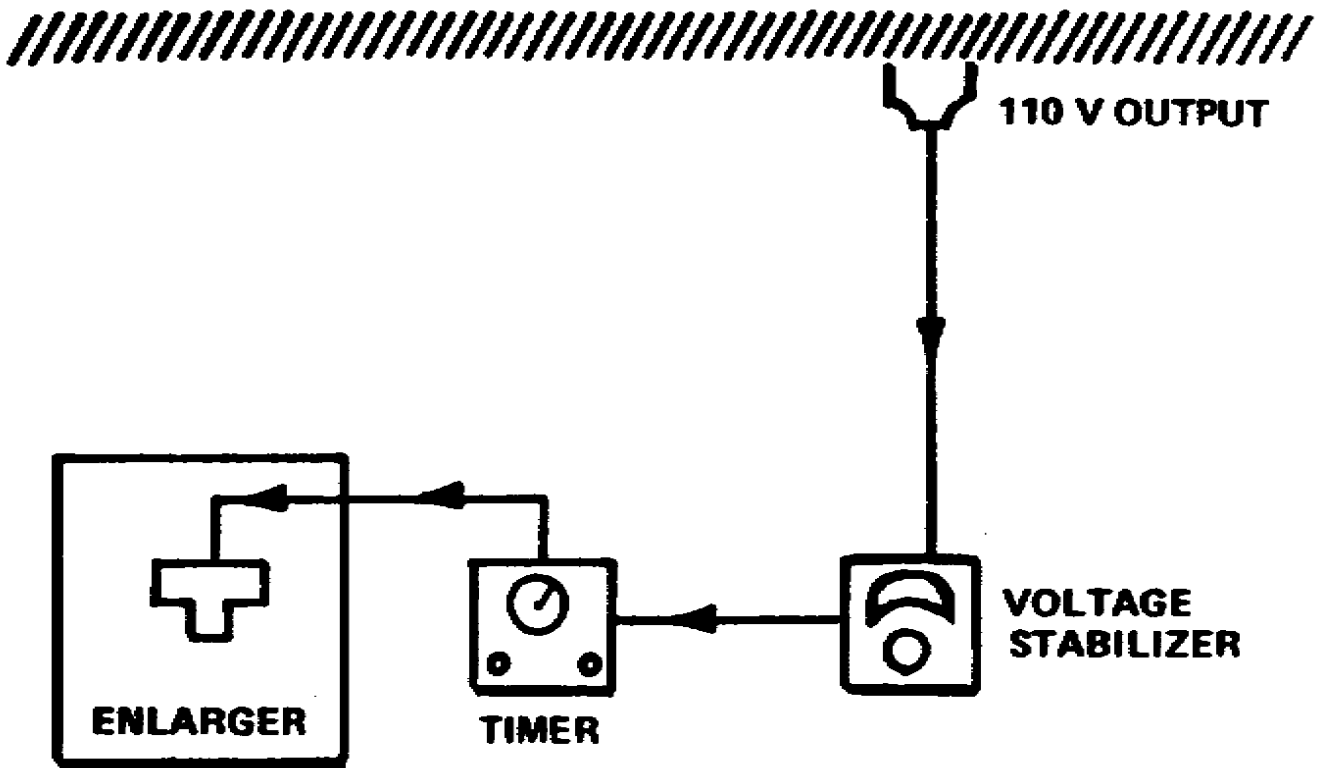

Figure 1-3. Typical enlarger setup
- a. Enlarger. Any enlarger that is equipped with a tungsten lamp, heat-absorbing glass, ultraviolet absorption filter (CP2B), and a means to hold printing filters is acceptable for making color prints. The enlarger should have a means of holding the filters between the lamp and the negative. Color printing (CP) filters are designed to be used in this position. If you use filters between the lens and the printing paper, you must use color-compensating (CC) filters. Since the projected image is passing through the filter, the highest quality filter must be used; CC filters are very high quality.
- b. Enlargers designed specifically for color printing have two distinct advantages, a diffused light source, and dial-in filters. A diffused light source enlarger will minimize negative defects such as dust and scratches. Dial-in filters make it much easier to alter the filter pack than trying to work with separate sheets of filter material. Figure 1-3 shows a typical enlarger setup.